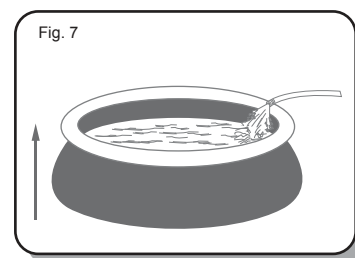

Fig. 8
5. Fill pool until water capacity is 80%, up to the bottom of the inflated ring of the pool so that the sides are smooth and firm. DO NOT OVERFILL as this could cause the pool to collapse. In times of heavy rainfall you may need to empty some of the water to ensure the level is correct. (See Fig. 8)